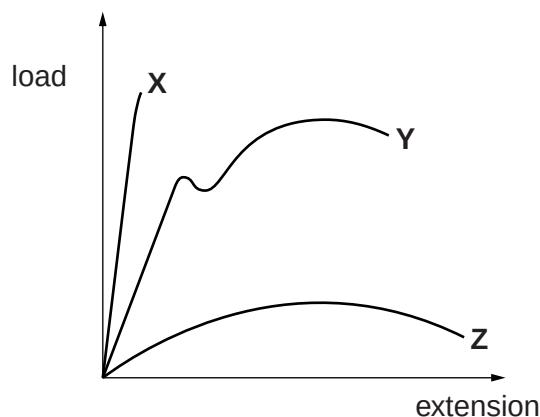

Fig. 4
6 Fig. 4 shows the load/extension diagram for three different materials.
- (a) Describe the specific information that can be obtained from Fig. 4 about materials **X, Y** and **Z**. [6]